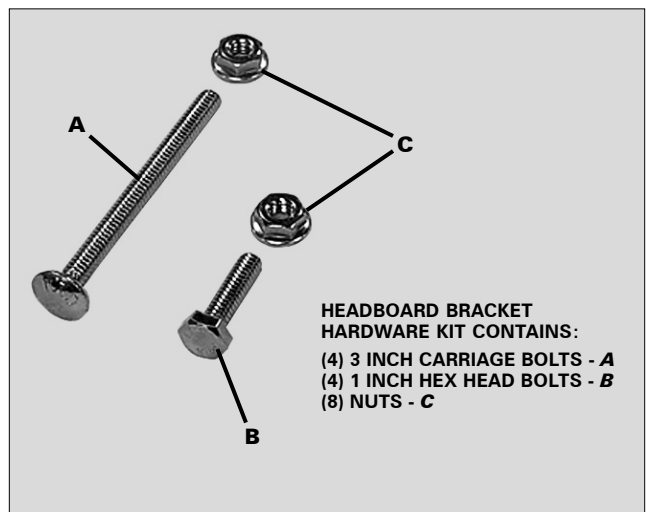
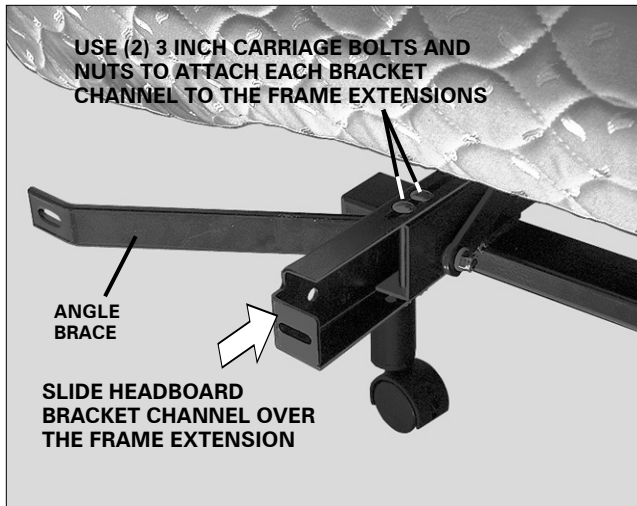

FIGURE 8: Headboard bracket hardware.
FIGURE 9: Headboard bracket channel installation (*one each side of the head section of the bed*).
- b. Slide one headboard bracket channel onto one side of the bed base frame. Using (2) bolts/nuts (FIGURE 8) attach channel to base frame (FIGURE 9). Hand tighten bolts/nuts (loosely) to allow adjustment of the headboard bracket channels. Repeat procedure to install the other headboard bracket channel to the other side.
QUEEN SIZE HEADBOARD BRACKET ASSEMBLIES ARE SHOWN. TWIN SIZE HEADBOARD BRACKETS (OR SMALLER) ARE NOT EQUIPPED WITH ANGLE BRACE (FIGURES 9 and 10).